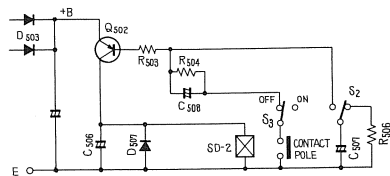

Fig. 13
1. When the program selector switch S2 remains released, the capacitor C507 is short-circuited at both ends by the resistor R506 (Fig. 13).